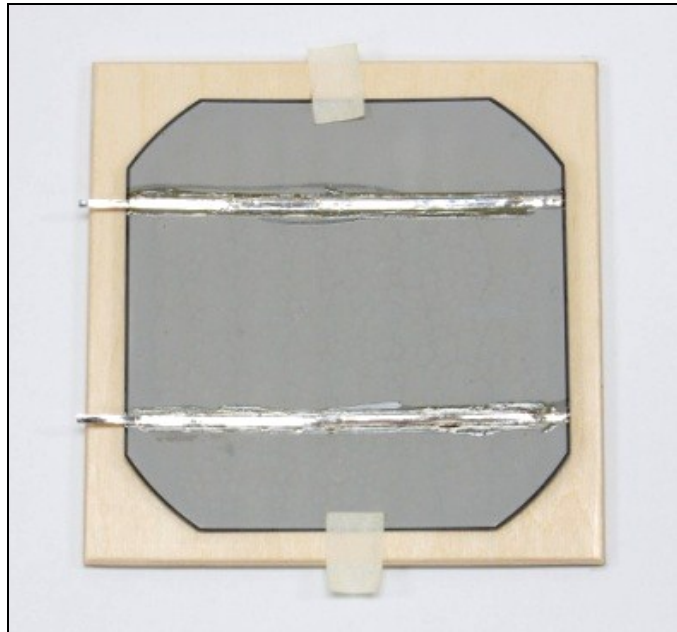

Figure 21
- ✓ Cut (6) tabbing wires, 5.25" long.
- ✓ Following the same flux and soldering procedures in Step 7, place the tabbing wire so that it extends past the edge of the cell 1/2", as shown in Figure 21.